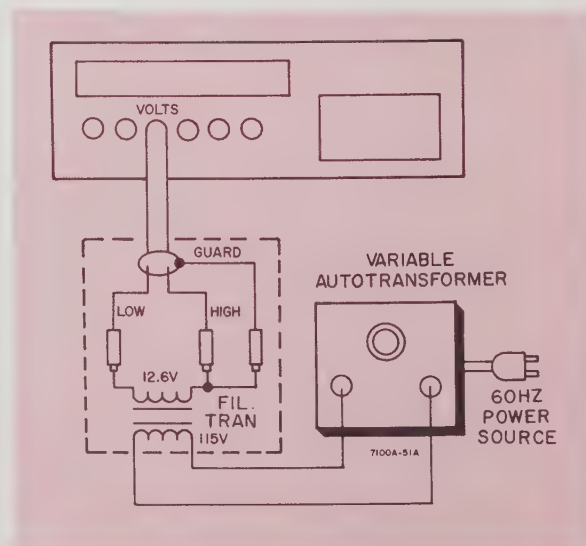

Figure 5-4. Test Set-Up 60 Hz Normal Mode Rejection
- f. Disconnect test equipment. Connect test equipment as shown in figure 5-4.